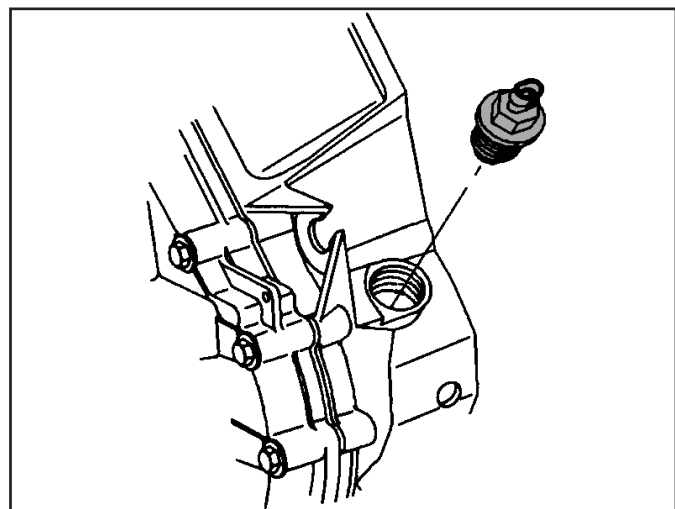

Figure 226
67. Install the output shaft speed sensor (See Figure 226) and torque to 26 N•m (19 ft. lbs).